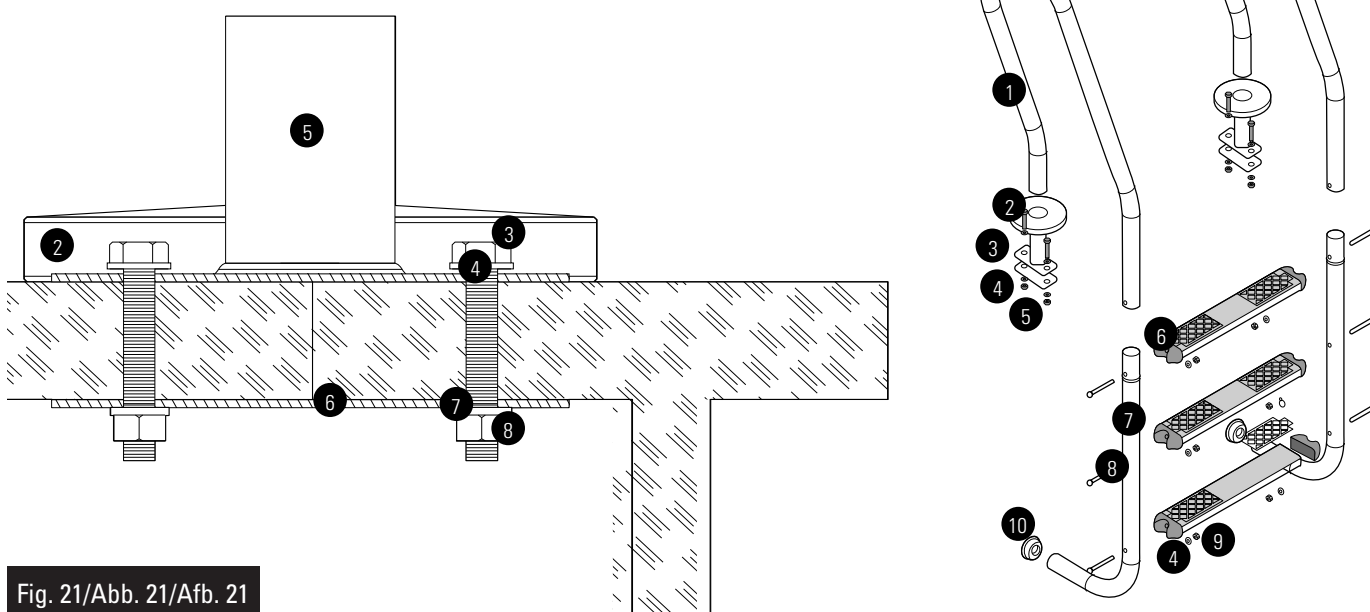

Fig. 21/Abb. 21/Afb. 21
- EN A.- Slot in the upper (1) and lower (10) handrails, fasten them with the steps (9) and the steps to the handrails using screws (11), nuts (8) and washers (7). (Fig.21)
B.- Assemble the end pieces (12) of the handrail so that the ladder cannot damage the pool.